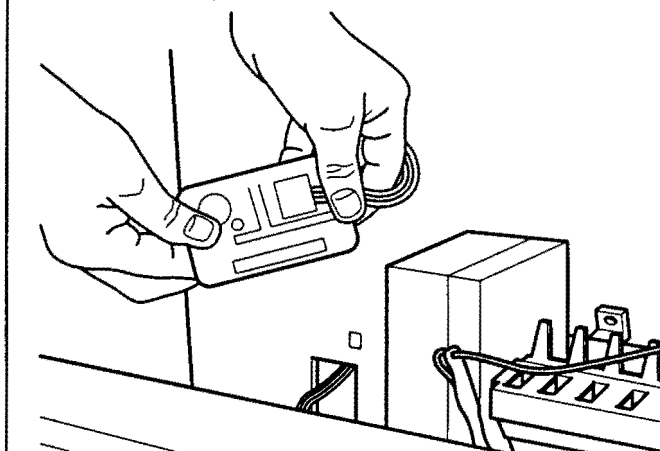

Figure 2-15. Thermistor Location
The input temperature range in all these freezer models is from -5°F to $+5^{\circ}\text{F}$, and is uniform throughout the cabinet. In other words, there is one zone and one thermistor for that zone. The thermistor is located behind the upper drawer in the reed switch assembly (Figure 2-15).
- 2. The temperature in the freezer drawer zone is uniform between both drawers, therefore only one thermistor is used. The thermistor is located behind the upper drawer in the reed switch assembly (Figure 2-15). To replace the thermistor, the complete reed switch assembly must be replaced. Simply remove the mounting screw, tilt the top of the reed switch assembly forward and disconnect the electrical connector.